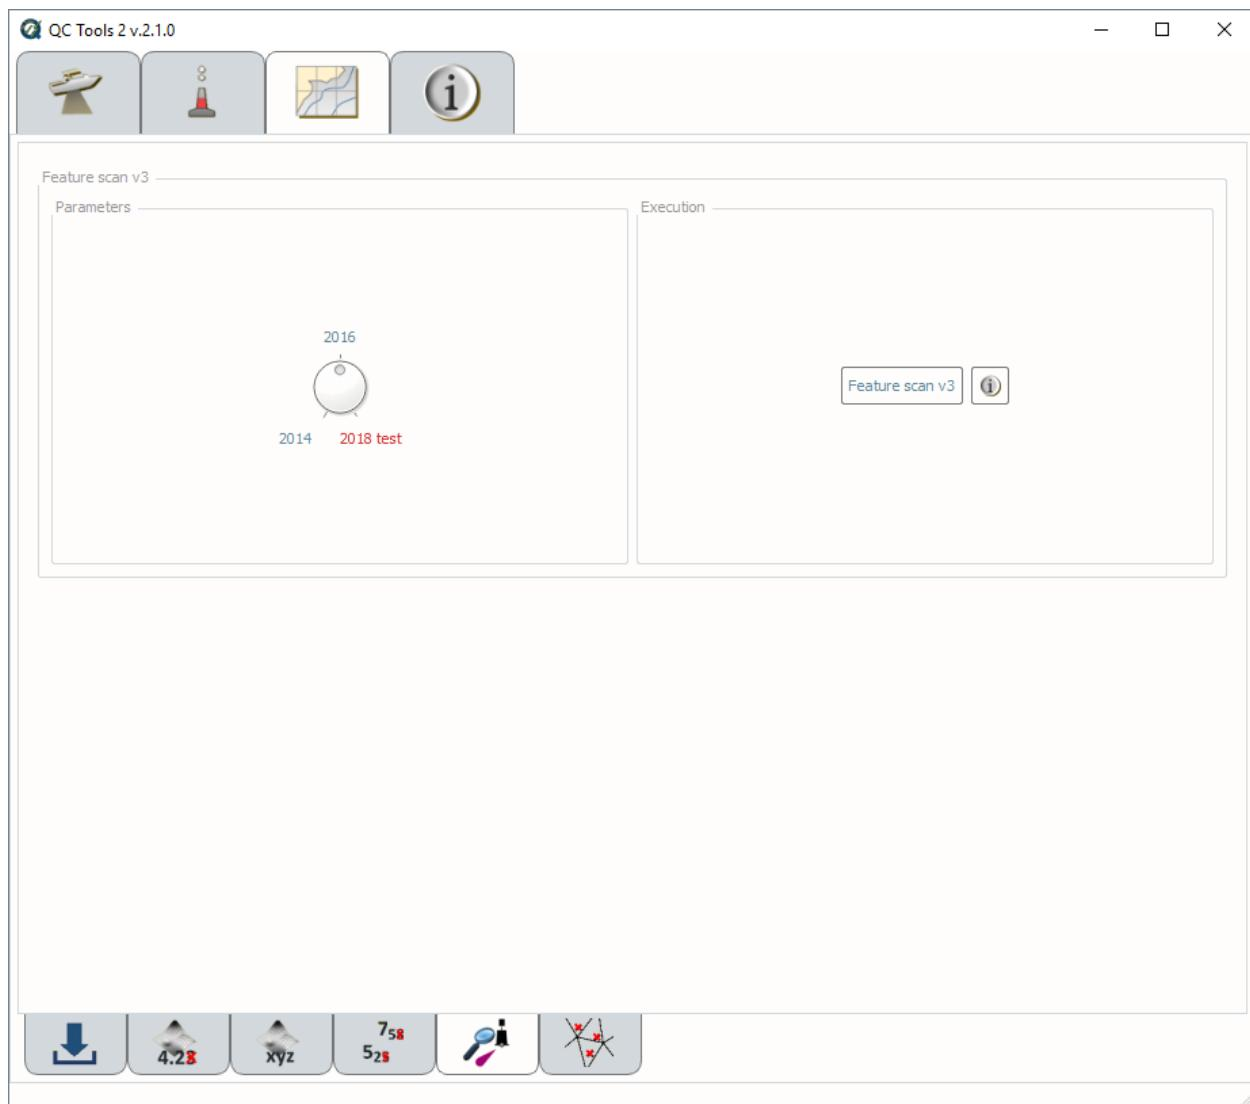

Fig. 2.60: Feature scan's interface.
- In **Parameters** (Fig. 2.60, left side), turn the knob to select the required year of HCell Specification. Currently, the ‘2018 test’ is duplicative to 2016.
- In **Execution** (Fig. 2.60, right side), click **Feature scan v2**.